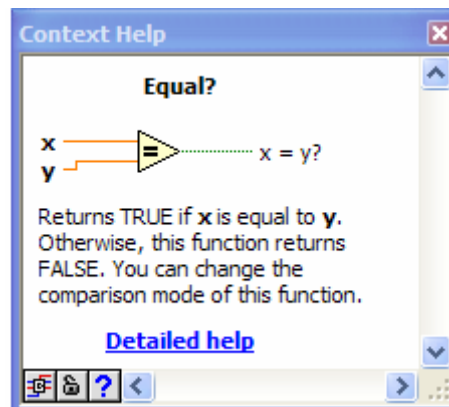

Figure 1. Context Help
- Context Help (shortcut: Ctrl+h) provides information about a LabVIEW graphical element (graphical element is usually referred to as VI – Virtual Instrument in LabVIEW) above which the mouse is positioned. Context Help gives an answer to the question “What is the function of this element?” For the function (Equal?) used to determine equality Context Help looks like this (see Fig. 1):